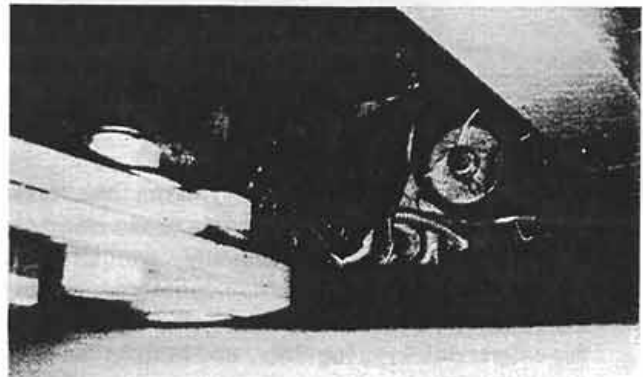

Figure 15:
4. Withdraw each brake slide rod (one at a time) to install the grommets (and link lever with link straps on Series III ST 220, 250, 251, 270, 310, 320, 325) (Fig. 15).